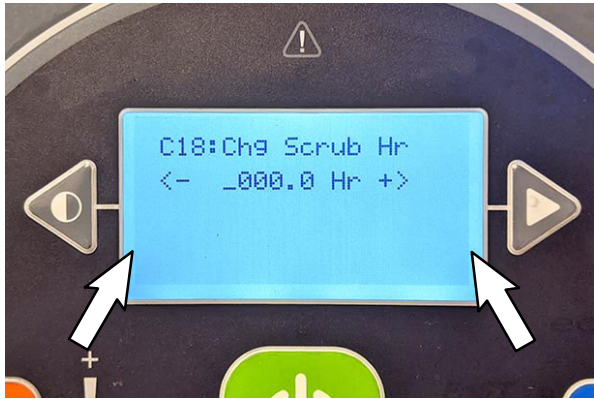
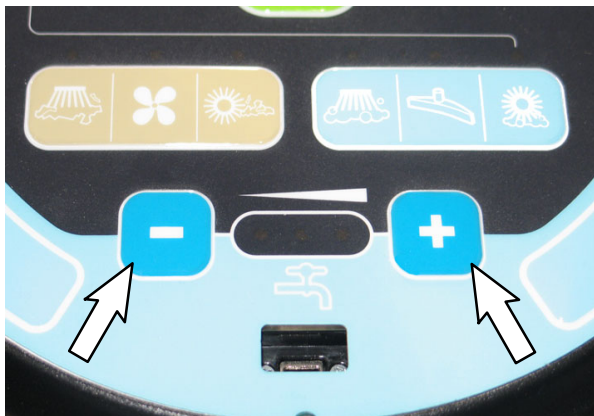

FIG. 37
FIG. 38
10. Reset the hour meter at the C18: Chg Scrub Hr screen: Use the minus (-) button and plus (+) button to set/reset numbers and the right arrow button to move to the next number. If necessary, use left arrow to move back to previous number. (Fig. 37/Fig. 38)